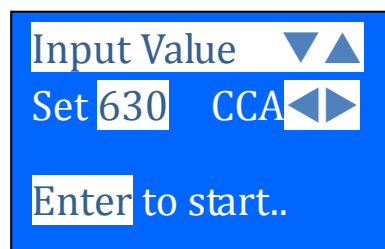

Figure 22
of 500 (Fig.21) by step of 100 units to 600. Likewise use  key to increase the last two digits (00) to 30 by step of 5 units for each pressing. (Fig. 22)